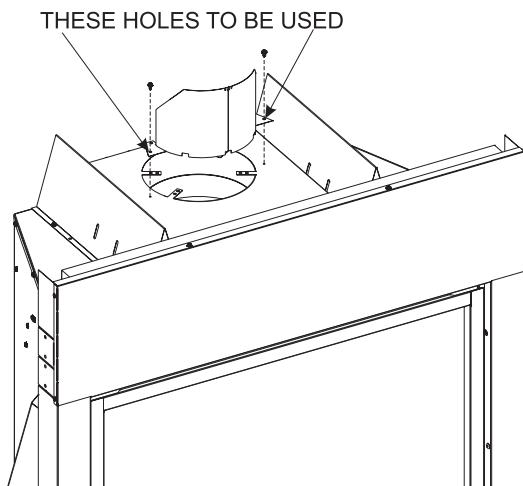

Figure 26 (vent pipe removed for clarity)
2. Attach to insulation box as shown in (Figure 26).